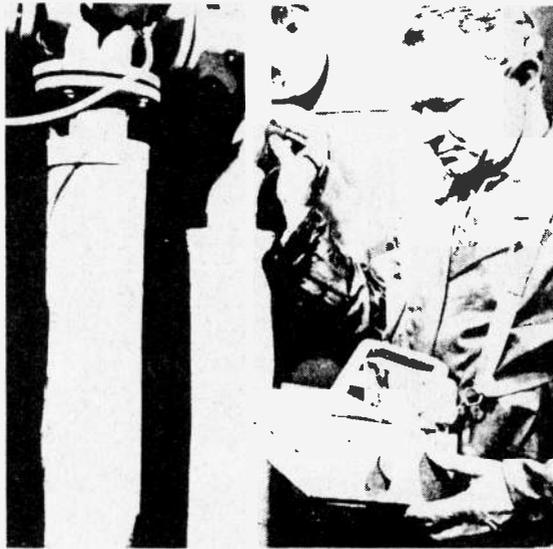

Fig. 10. Testing the corrosion thickness of a pipe with an ultrasonic gauge.
**Ultrasonic Gauging** — If the velocity of propagation is known, the transit time of an acoustic wave within a material is a measure of thickness. Sound waves travel at about 300 m/sec in air, 1500 m/sec in water and 5000 m/sec in metals. This principle has been used for small distance gauging. The slower velocity of acoustic waves, compared with electro-magnetic radiation, enables finer resolution to be obtained for a given technological limit on transit time measurement. Ultrasonic micrometers have been developed that resolve to 2  $\mu$ m. Ultrasonics have been successfully employed for engineering component thickness measurement, corrosion thickness measurement in pipes, (see Fig. 10), and for medical applications in which foreign objects are located, growths discovered and probes guided.